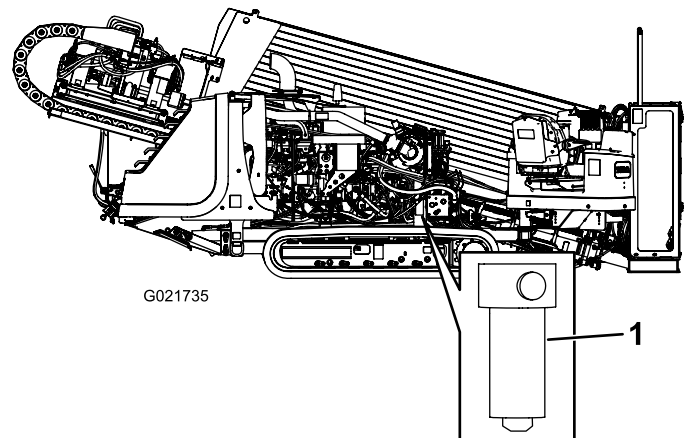

Figure 146
4. Using a filter wrench, remove the hydraulic-pressure filter (Figure 146).